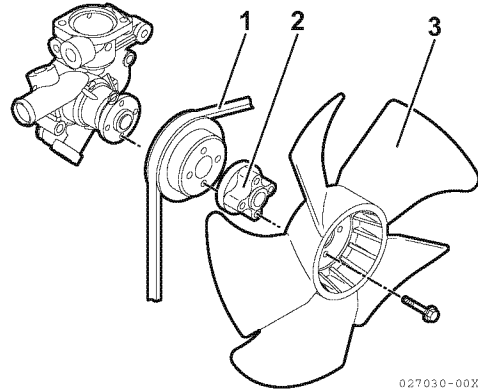

Figure 9-14
1. Remove the coolant fan guard (if equipped), cooling fan (**Figure 9-14, (3)**), spacer (**Figure 9-14, (2)**), coolant pump V-pulley (**Figure 9-14, (1)**) and V-belt.